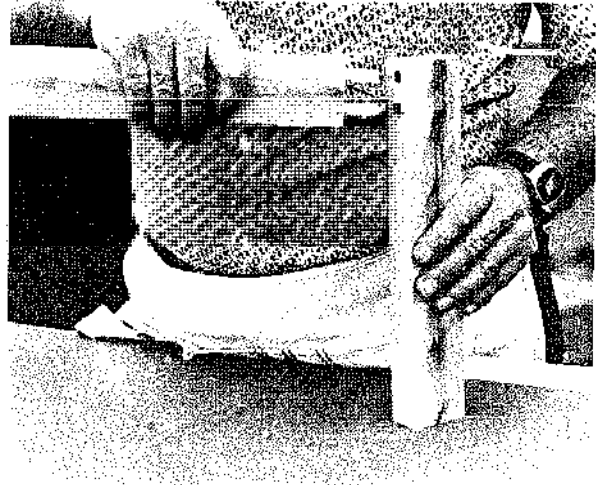

Fig. 10-47 Assembling a dowel joint.
11. Refer to figure 10-47. Place the dowels in the holes and complete the joint.